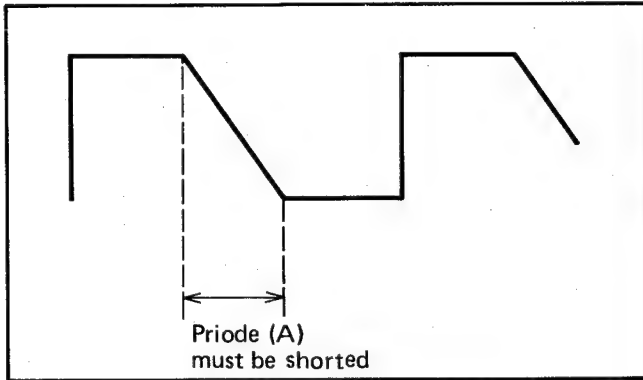

Fig. 8 Priode (A) must be shorted
7. Adjust the VR5104 (A+B), VR5105 (A-B) so that the priode (A) on the waveform is shorted as shown in Fig. 8.